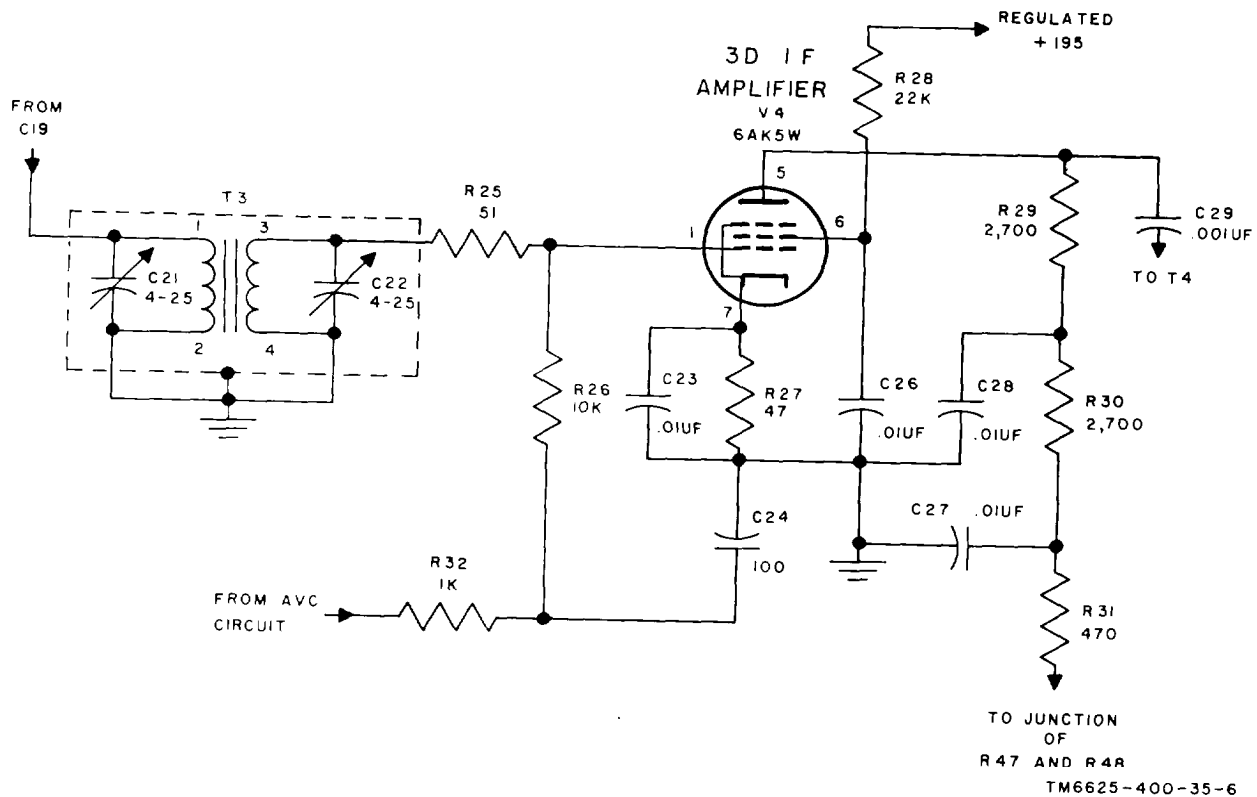

Figure 6. Third if. amplifier, schematic diagram.
c. Tube V4 (fig. 6) is the third if. amplifier. The signal input is coupled through T3 to the grid of V4. Capacitors C21 and C22 tune T3. Parasitic oscillations are suppressed by R25. Resistor R26 is the